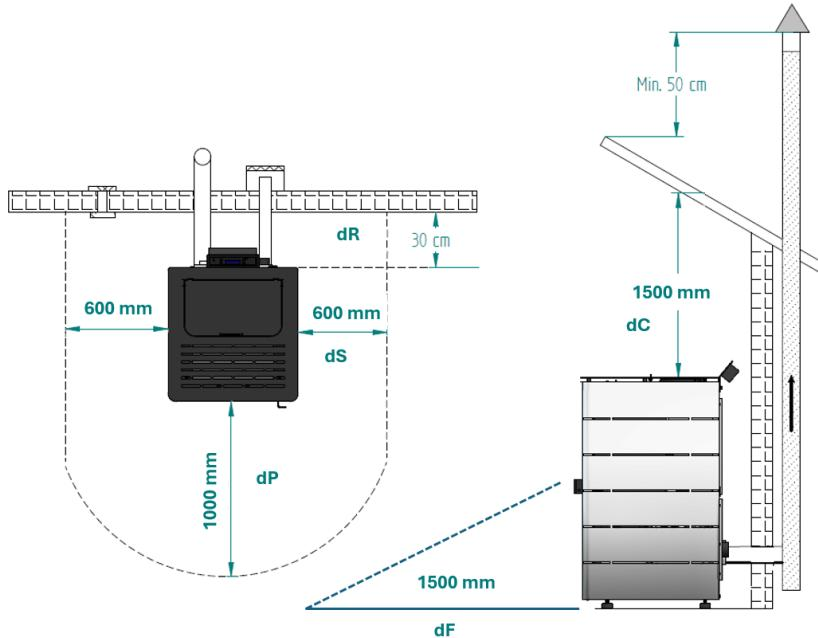

Figure 5 - Minimum distance from all Luma combustible surfaces
- The minimum distances between the stove and the *pellets* and particularly flammable surfaces are shown in the Figure 5.